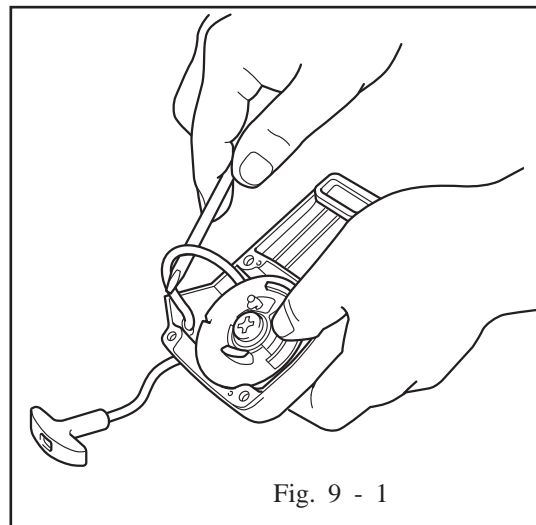

Fig. 9 - 1
- (1) Remove recoil starter from engine.
- (2) Pull out starter knob, hold rotary reel with your thumb as shown in Figure 9 - 1, when reel notch gets aligned with starter rope out let and pull starter rope to inside of recoil starter with a screwdriver or the like.
- (3) Remove the parts as shown in Fig. 9 - 2.